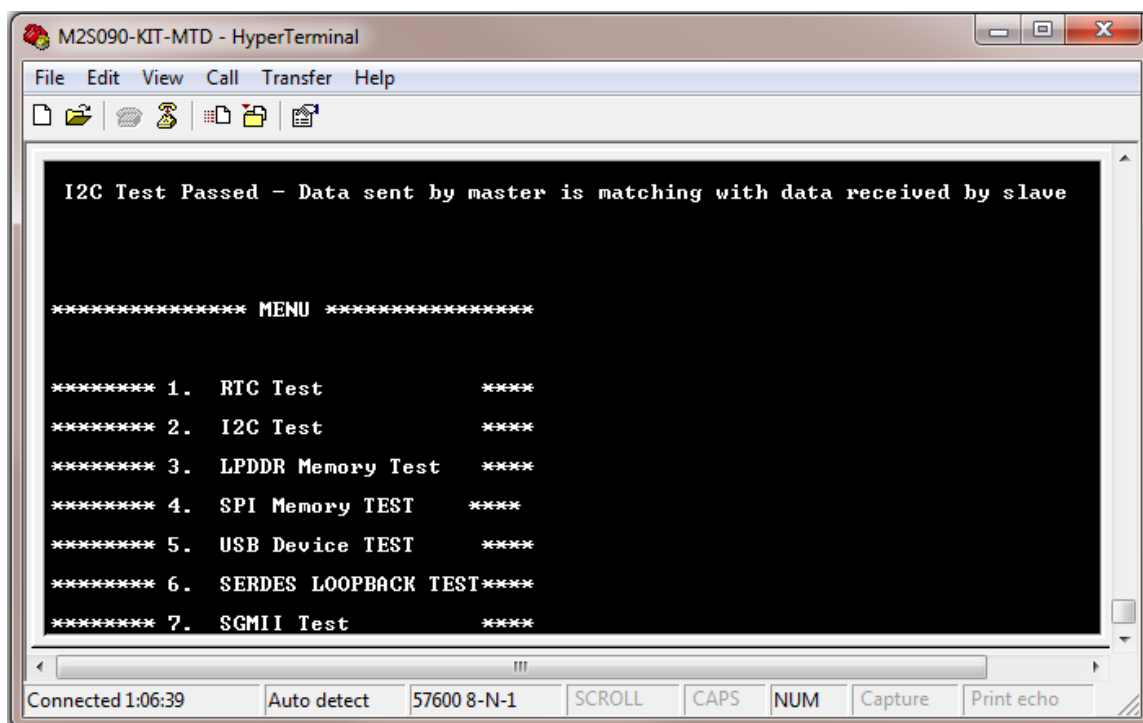

Figure 40 I2C Test Passed
- Press **2** to run the I²C loopback test. Refer to Figure 40.